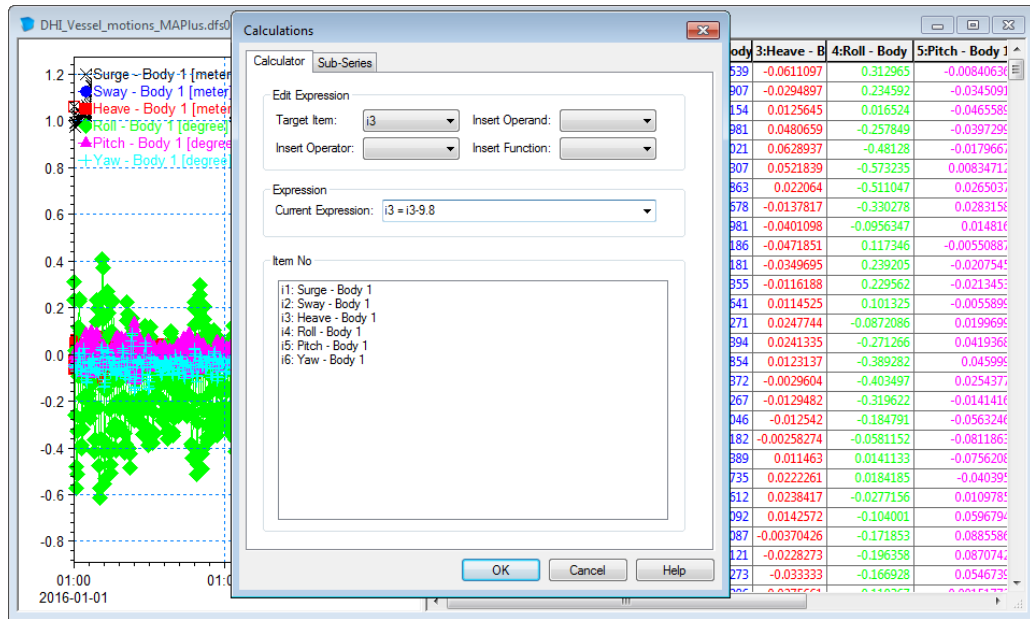

Figure 2.23 Modifying position of vessel to accommodate local coordinate system of 3Dsolid.
2. Subtract 9.8 m from the third item (Heave) to account for the Draft of the vessel, see Figure 2.23. Press OK and save and close the file 'GenerateTSDData.mzt'.